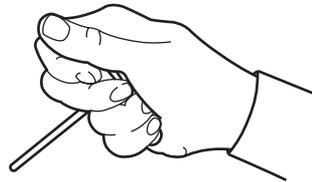

Figure 3-5. Allen Wrench Usage.
6. Insert the black pressure screw into the hole in the top of clamp. Grasp the Allen wrench (see Figure 3-5) and tighten the pressure screw until it is snug. When the wrench begins to bend under pressure where your thumb is resting, you have tightened the screw enough. Do not overtighten the screw.